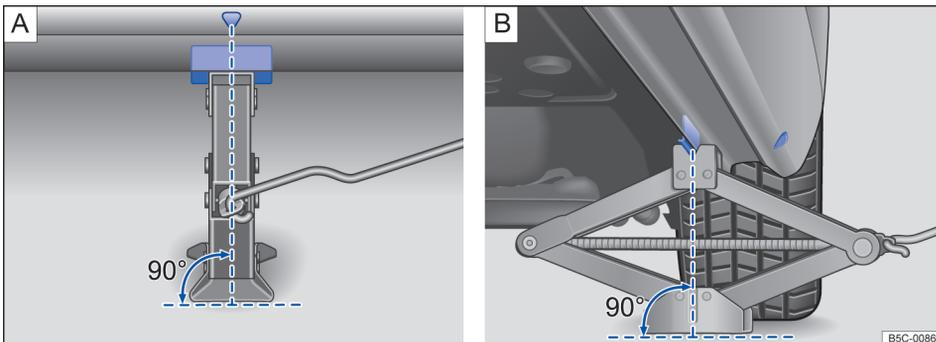

Fig. 188 Jack in position at the left rear lift point.
12. Position the jack so that its base is directly underneath the lift point → fig. 188, making sure that the entire base of the jack rests securely on the ground.
13. Align the jack and wind up the jack claw at the same time, until the claw cradles the vertical rib underneath the vehicle → fig. 188 (arrow).
- Position the jack only at the described vehicle lift points. Before you raise your vehicle, always make sure the jack claw properly grips the vertical rib under the sill so that the jack does not slip off when you are raising the vehicle → fig. 188.